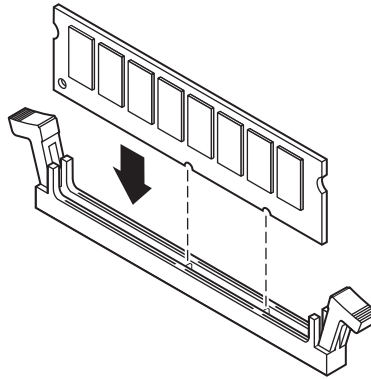

Figure 15: Installing the DIMM
4. Insert the DIMM into the socket and align the two notches in the DIMM with the two notches in the DIMM socket (see Figure 15).